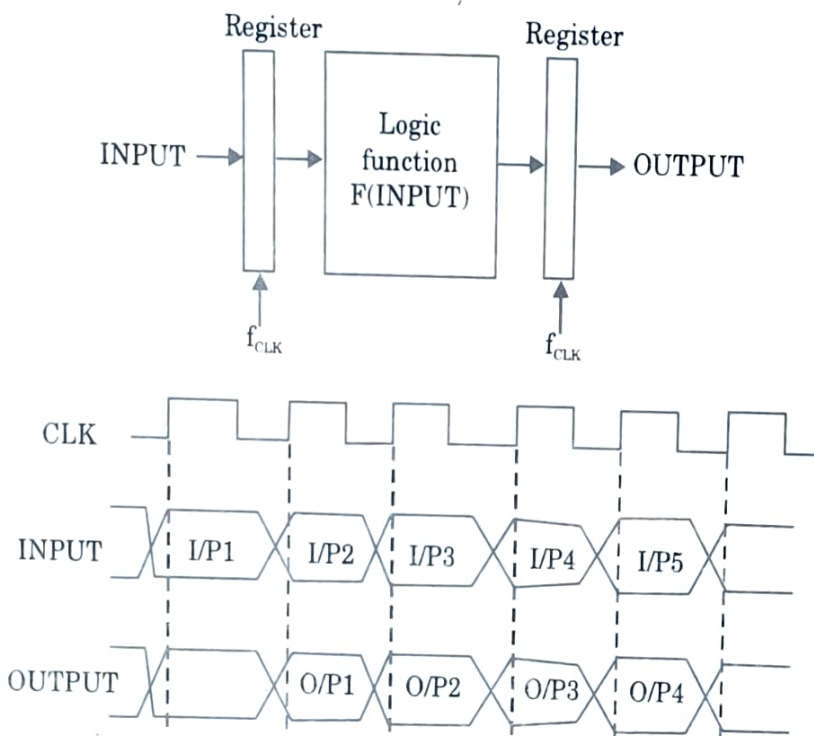

Fig. 4.10.1.
- Consider the single functional block as shown in Fig. 4.10.1(a) with logic function $F(\text{INPUT})$ of input vector, INPUT.